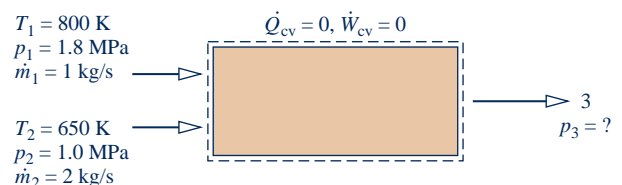

Fig. P6.98
6.98 Figure P6.98 provides steady-state test data for a control volume in which two entering streams of air mix to form a single exiting stream. Stray heat transfer and kinetic and potential energy effects are negligible. A hard-to-read photocopy of the data sheet indicates that the pressure of the exiting stream is either 1.0 MPa or 1.8 MPa. Assuming the ideal gas model for air with $c_p = 1.02 \text{ kJ/kg} \cdot \text{K}$, determine if either or both of these pressure values can be correct.